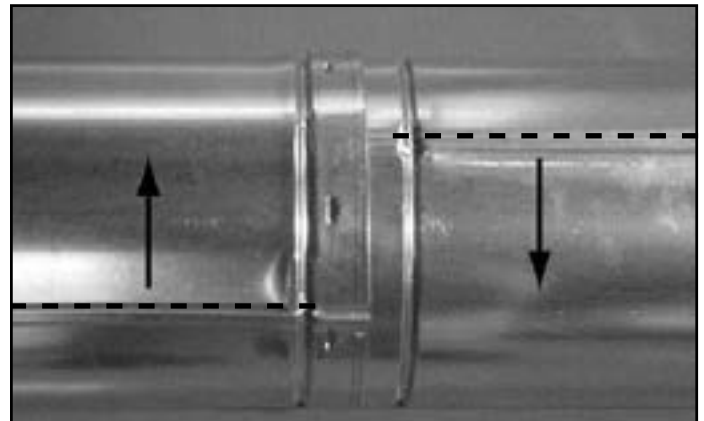
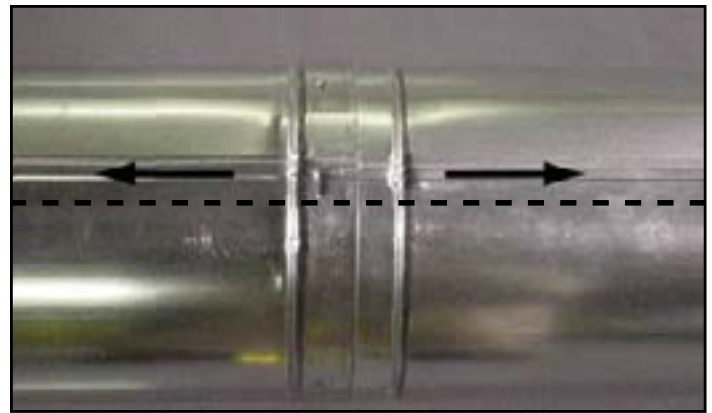

Figure 5.18 - Rotate Seams for Disassembly
Figure 5.19 - Align and Disassemble Vent Sections
- Rotate either section (see Figure 5.18) so the seams on both pipe sections are aligned as shown in Figure 5.19.